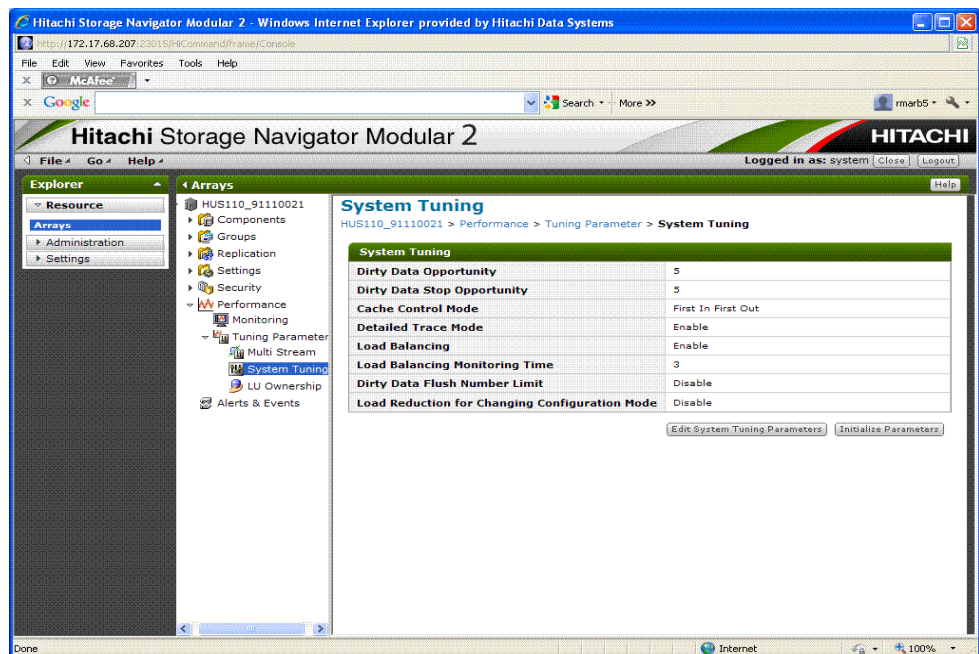

Figure 8-13: System Tuning window
4. Click **System Tuning**. HSNM2 displays the System Tuning window as shown in Figure 8-13. Note that the Dirty Data Flush Number Limit field in the System Tuning list has a setting of Disabled, the default value.